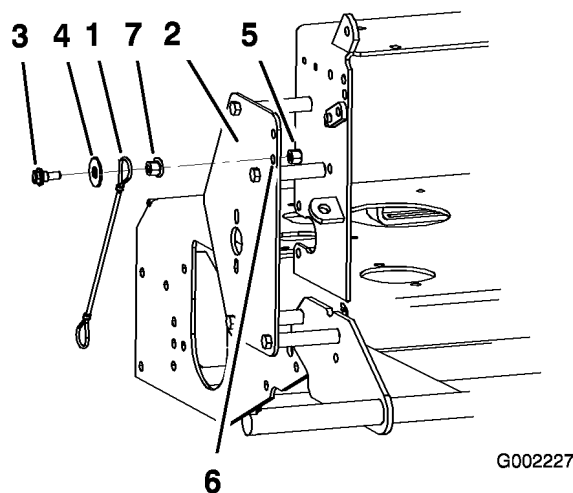

Figure 9
5. Install the lanyard to the rear hole in the linkage guard as shown in Figure 9. Secure the lanyard with 1 shoulder bolt, 1 flange nut, 1 washer (1-3/8 inches O.D.) and 1 locknut (3/8 inch) (Figure 9).